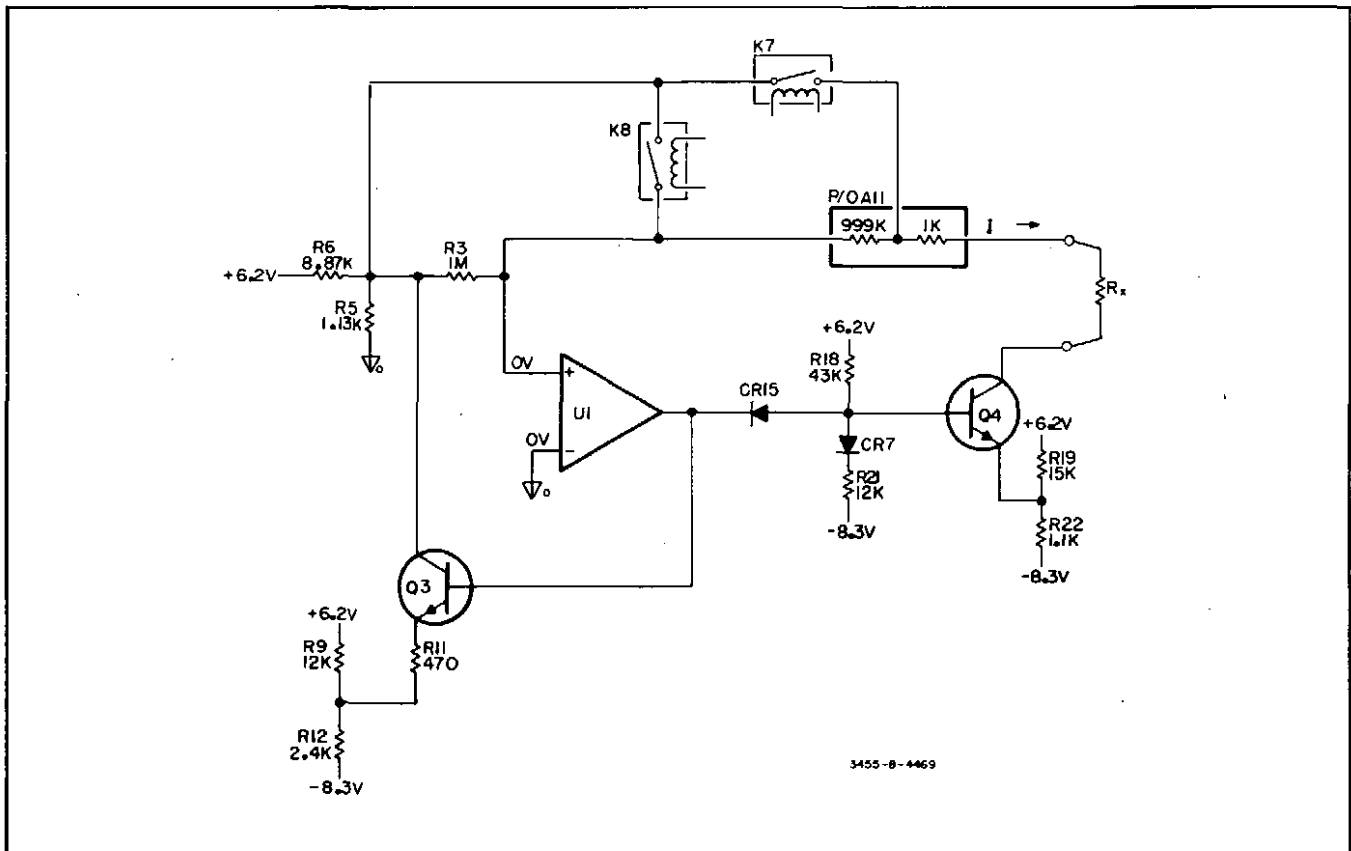
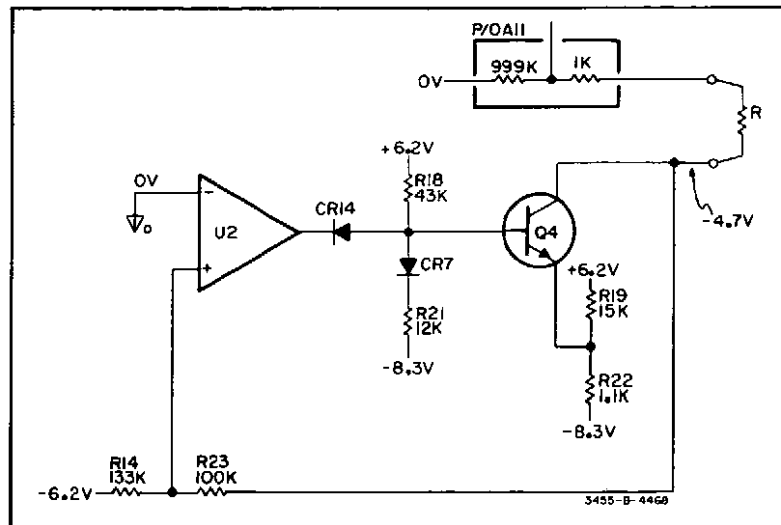

Figure 8-21. Ohms Converter Current Source.
Figure 8-22. Ohms Converter Voltage Limit.
**8-70. Current Source.** Figure 8-21 shows a simplified schematic of the current source used in the ohms converter. The circuit is designed to provide an output current of .7 mA or .7 μA. Output current is determined by resistors R3, R5, and R6. During the .7 mA mode of operation, (100 ohm through 100 kilohm ranges) relay K8 shorts resistor R3. The output current is then determined by R6 and is equal to the reference voltage (+ 6.2 V) divided by the resistance of R6, or  $I_o = 6.2/8.87 K = .7 \text{ mA}$ . During the .7 μA mode of operation, (1 megohm and 10 megohm ranges) both K7 and K8 are open. Resistors R5 and R6 form a divider which divides the + 6.2 V reference to + .7 V. The output current is now determined by the .7 V across R3 or  $I_o = .7 \text{ V}/1 \text{ M} = .7 \mu\text{A}$ . Operational Amplifier U1 drives output transistor Q4 and provides the gain necessary to maintain the proper output current. Relay K7 is used to select a reference resistance of 1 kilohm for the .1 kilohm through 10 kilohm ranges or 1 megohm for the 100 kilohm through 10 megohm ranges. Both the reference resistance and the unknown resistance are in the feedback circuit of the operational amplifier.
**8-71. Voltage Limit.** Figure 8-22 shows a simplified schematic of the voltage limit circuit used in the ohms converter. During the current mode of operation the non-inverting input of U2 is positive, as referenced to ohms ground. In this mode the positive output of U2 is blocked by CR14, making the voltage limit circuit inoperative. As the resistance of  $R_x$  is increased the collector voltage of Q4 becomes more negative. This change is coupled to the non-inverting input of U2 through the voltage divider composed of R14 and R23. As the input of U2 approaches 0 V the output reverses polarity and forward biases CR14. At this point U2 takes control of output transistor Q4 and maintains a constant voltage of approximately -4.7 V dc at the collector. During the time the ohms converter is in the voltage limit mode, transistor Q3 supplies the feedback necessary to balance the current source circuit (see Figure 8-21). The converter operates as a voltage source when measuring resistances greater than 5.8 kilohm on the 100 ohm through 100 kilohm ranges and greater than 5.8 megohm on the 1 megohm and 10 megohm ranges.